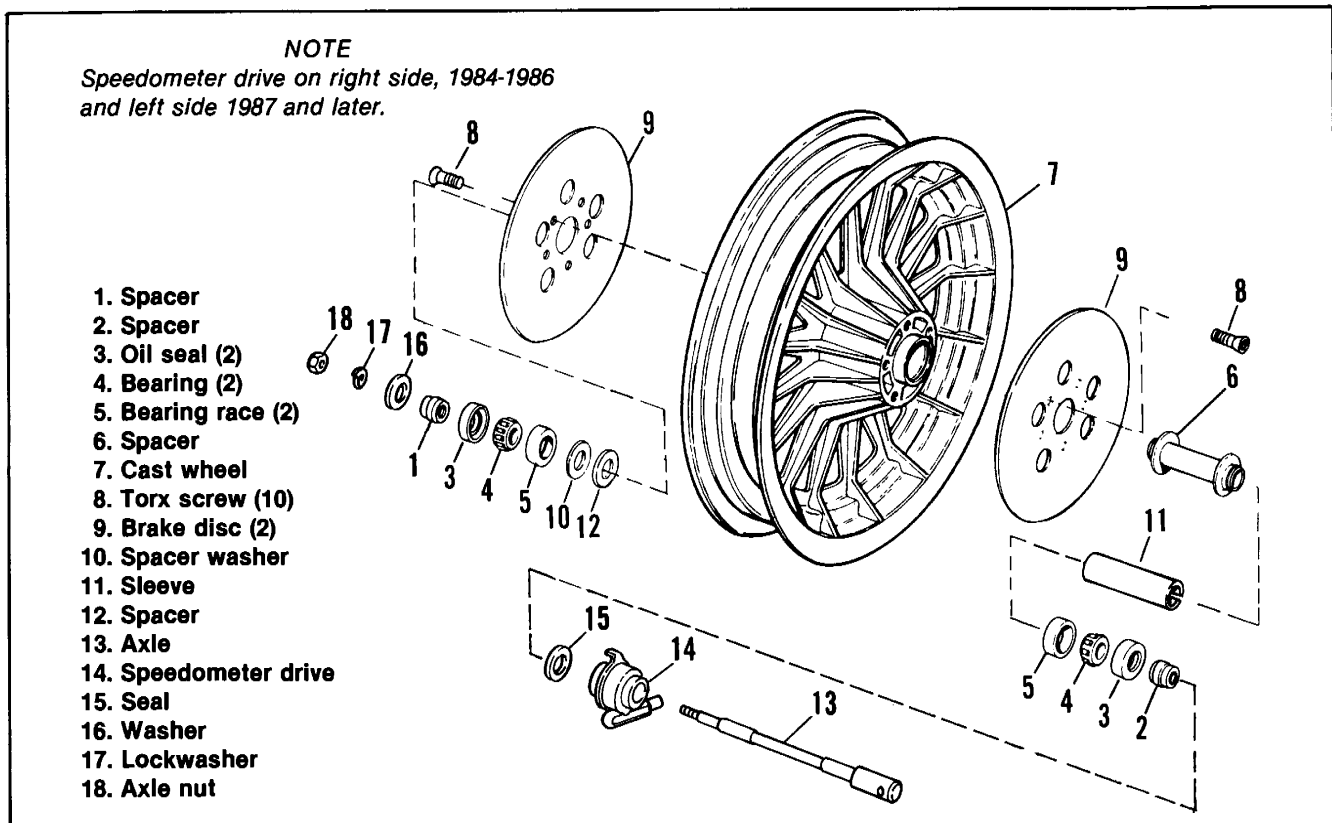

Figure 2-2. Cast Front Wheel Exploded View — FLT Models
DISASSEMBLY (Figure 2-2)
CLEANING, INSPECTION AND REPAIR (Figure 2-2)
ASSEMBLY (Figure 2-2)
5. See Figure 2-2. If end play does not fall between 0.002 and 0.006 in., substitute a thicker spacer (12) for more end play or a thinner spacer for less end play. See following chart for spacer sizes and part numbers.